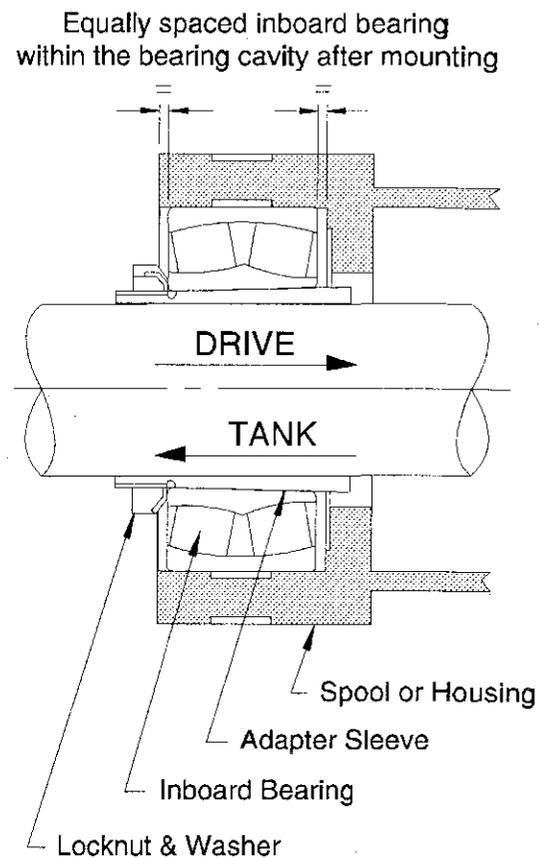

Figure 33: Inboard Bearing Position
4. Check to ensure that the radial internal clearance value is not less than the "minimum permissible residual clearance after mounting," in *Table 9*, and that the final bearing location is equally spaced within the bearing cavity, *Figure 33, page 72*